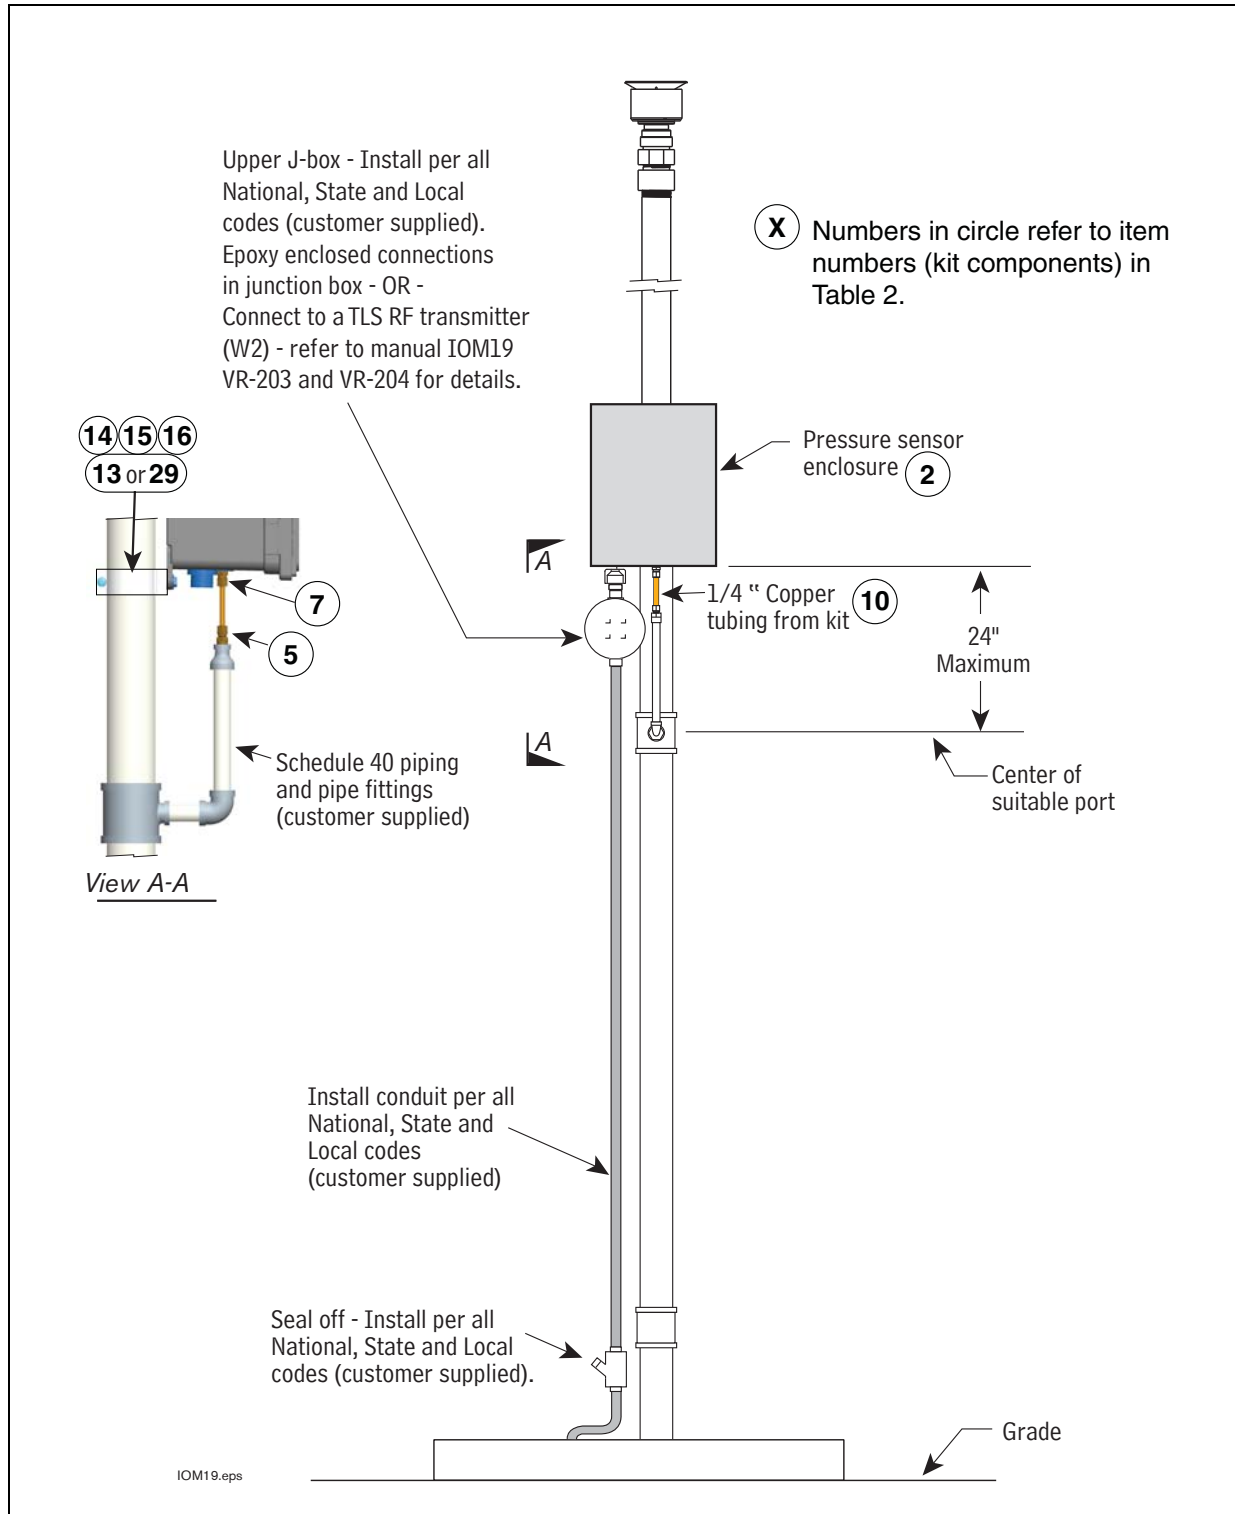

Figure 1. Locating Pressure Sensor Enclosure in Vapor Vent Stack
3. Locate a suitable port in an existing Schedule 40 piping fitting (tee, cross, etc.) or plumb a suitable Schedule 40 pipe fitting (tee, cross, etc.) into the vapor vent stack line (maximum length of copper tubing limited by dimension in Figure 1).
17. Mount the plastic enclosure onto the vapor vent stack or suitable rigid structure ABOVE the vapor vent stack port using two conduit clamps (for 2" or 3" pipe), bolts, nuts, and washers included, or use other customer supplied suitable mounting hardware (Example: Unistrut®). Leave the mounting hardware somewhat loose for later enclosure height adjustment (see Figure 1).
19. Install one 68CA-4-4 male connector (item 1 in Table 3) onto the top of the new pipe (see View A-A, Figure 1).
20. Measure, fabricate, and install 1/4" OD copper tubing (item 6 in Table 3) between the bulkhead union and the male connector. Adjust the enclosure vertically on vent pipe to make sure the copper tube is fully inserted into the bulk head union and male connector.
24. When direct wiring to a TLS console, install 1/2" electrical conduit from the conduit hub in the bottom of the enclosure to the customer supplied weather-proof junction box (see Figure 1). For wireless installations, using the TLS RF, Steps 24 - 27 are not required.
25. Route the cable from the pressure sensor to the junction box under the enclosure. Observing polarity, connect the sensor wiring to the field wiring from console and cap with wire nuts (see Figure 1).